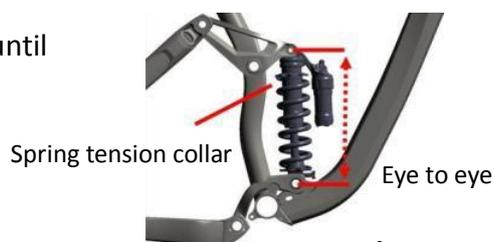

Fig.1
1. Turn the spring tension collar counter clockwise until there is minimal tension on the spring (figure1).
3. Position your bicycle next to a wall so that you can sit on the bike with both feet on the pedals while steadying yourself with one arm. Gently sit on the saddle without bouncing. Have a partner measure the eye-to-eye distance while you are seated on the bike (figure 1). Dismount.